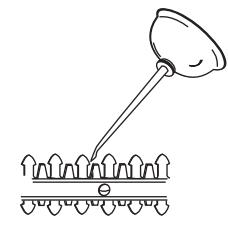

Fig. 7
- 1. Apply light machine oil along the edge of the top blade (Fig. 7).